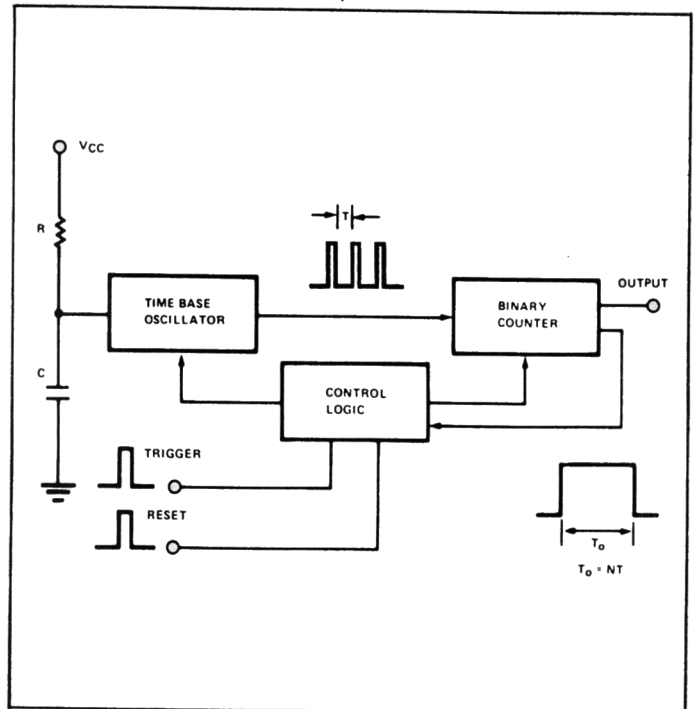

Figure 3. Simplified Block Diagram of a Timer/Counter.
The timer/counter, or multiple-cycle timing circuits use the combination of a time-base oscillator and a binary counter to generate the desired time delay. Figure 3 shows a simplified block diagram of a timer/counter IC, which is made up of three basic blocks: (1) a time-base oscillator; (2) a binary counter; and (3) a control flip-flop.
With reference to the simplified block diagram of Figure 3, the principle of operation of a timer/counter can be explained as follows: when the circuit is at rest, or reset condition, the time-base oscillator is disabled, and the counter is reset to zero. Once the circuit is triggered, the time-base oscillator is activated and produces a series of timing pulses whose repetition rate is proportional to external timing resistor R, and the capacitor C. These timing pulses are then counted by the binary counter; and when a pre-programmed count is reached, the binary-counter resets the control flip-flops, stops the time-base oscillator and ends the timing cycle. The total timing interval, T_0 , is then proportional to N times the (RC) product, where N is the pre-programmed count.